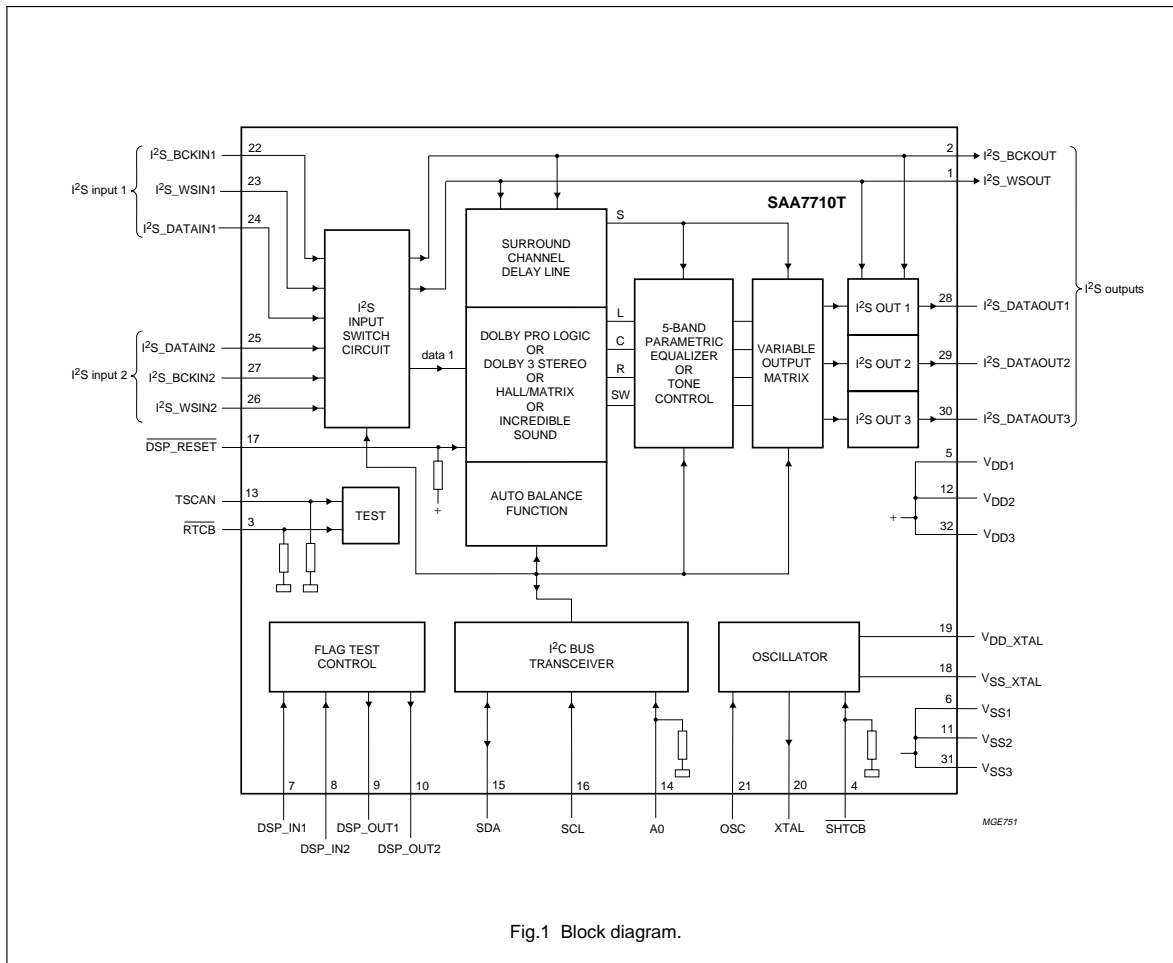

Fig.1 Block diagram.
Figure 1 shows the block diagram of the SAA7710T. The SAA7710T consists of a Dolby Pro Logic decoder together with equalizer or tone control. The Dolby Pro Logic part of the IC may be used to decode audio soundtracks (Dolby surround movies or Dolby surround video productions) from for example, a video recorder (VCR) or a CD laser disc into four channels Left, Centre, Right and Surround (L, C, R and S). If desired, post-processing with either an equalizer or a tone control section is possible. In addition to this, a Sub Woofer (SW) channel, digital volume control and a user-programmable variable output matrix are implemented.